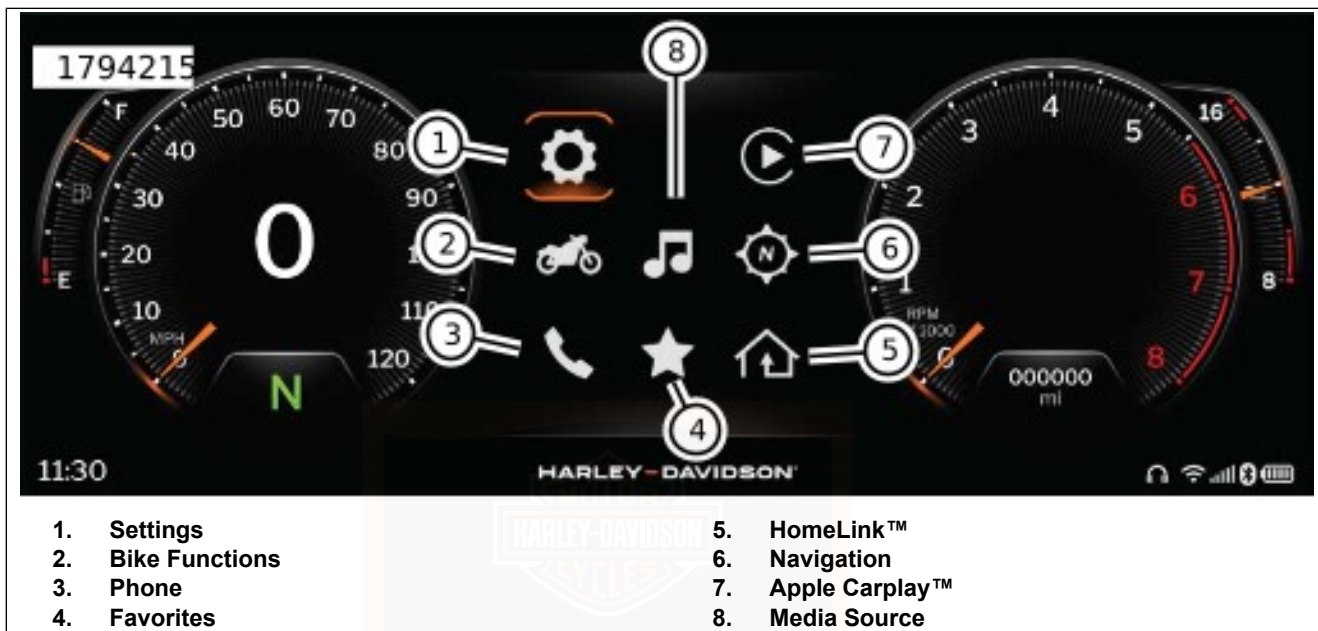

Figure 81. IFCU Menu Selections
- a. See Figure 81. Using left hand control or touch screen, navigate to **Settings>System>System Info>Product Information**. This menu will show the current software version on the IFCU. See OPERATION > INFOTAINMENT CONTROL UNIT (IFCU) (Page 91).